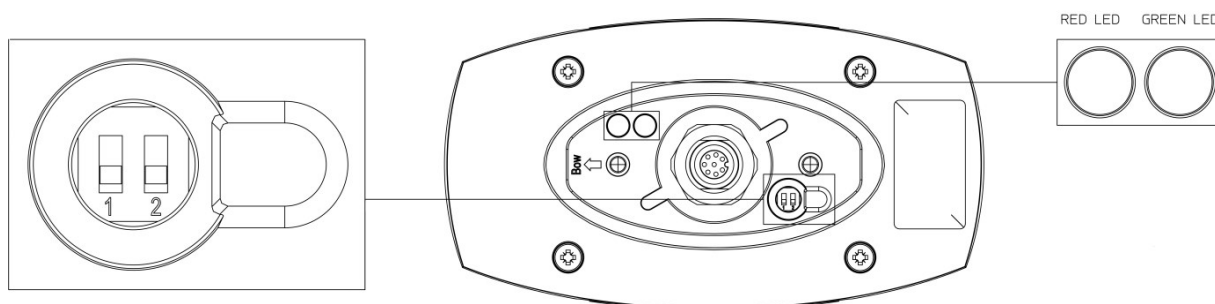

FIGURE 44: LT-1000 NRU DIP-SWITCH AND LEDs (BOTTOM SIDE OF LT-1000 NRU).
The LT-1000 NRU has a built-in DIP-switch, which is accessible from the bottom of the unit, before the pole or roof mount is mounted. To access the DIP-switch, the cap plug has to be removed; hereafter the installer will have direct access to configuration of the DIP-switch. Furthermore, two LEDs are visible on the bottom of the LT-1000 NRU. The placement of the DIP-switch and LEDs are illustrated in Figure 44.
**IMPORTANT:** The DIP-switch is configured to 4800 baud (NMEA 0183) and 'Open' (NMEA 2000) when leaving the factory. However, the installer should always check the settings of the DIP-switch prior to an installation. Make sure to hold the LT-1000 NRU as illustrated in Figure 44, when reading and configuring the DIP-switch, to avoid wrong settings.